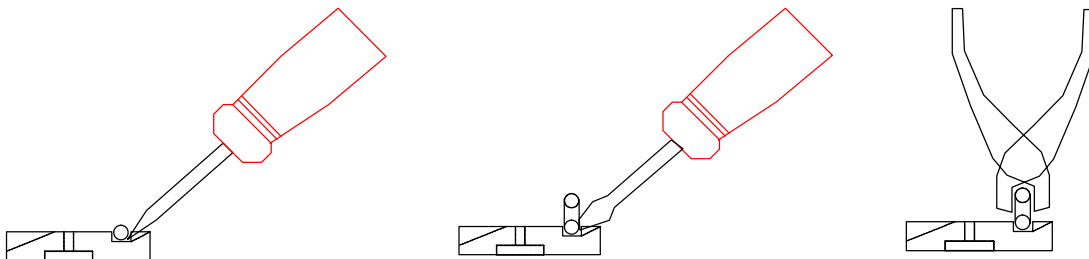

Figure 1
7. Use pliers to remove the dowel pin all the way. See Figure 1.